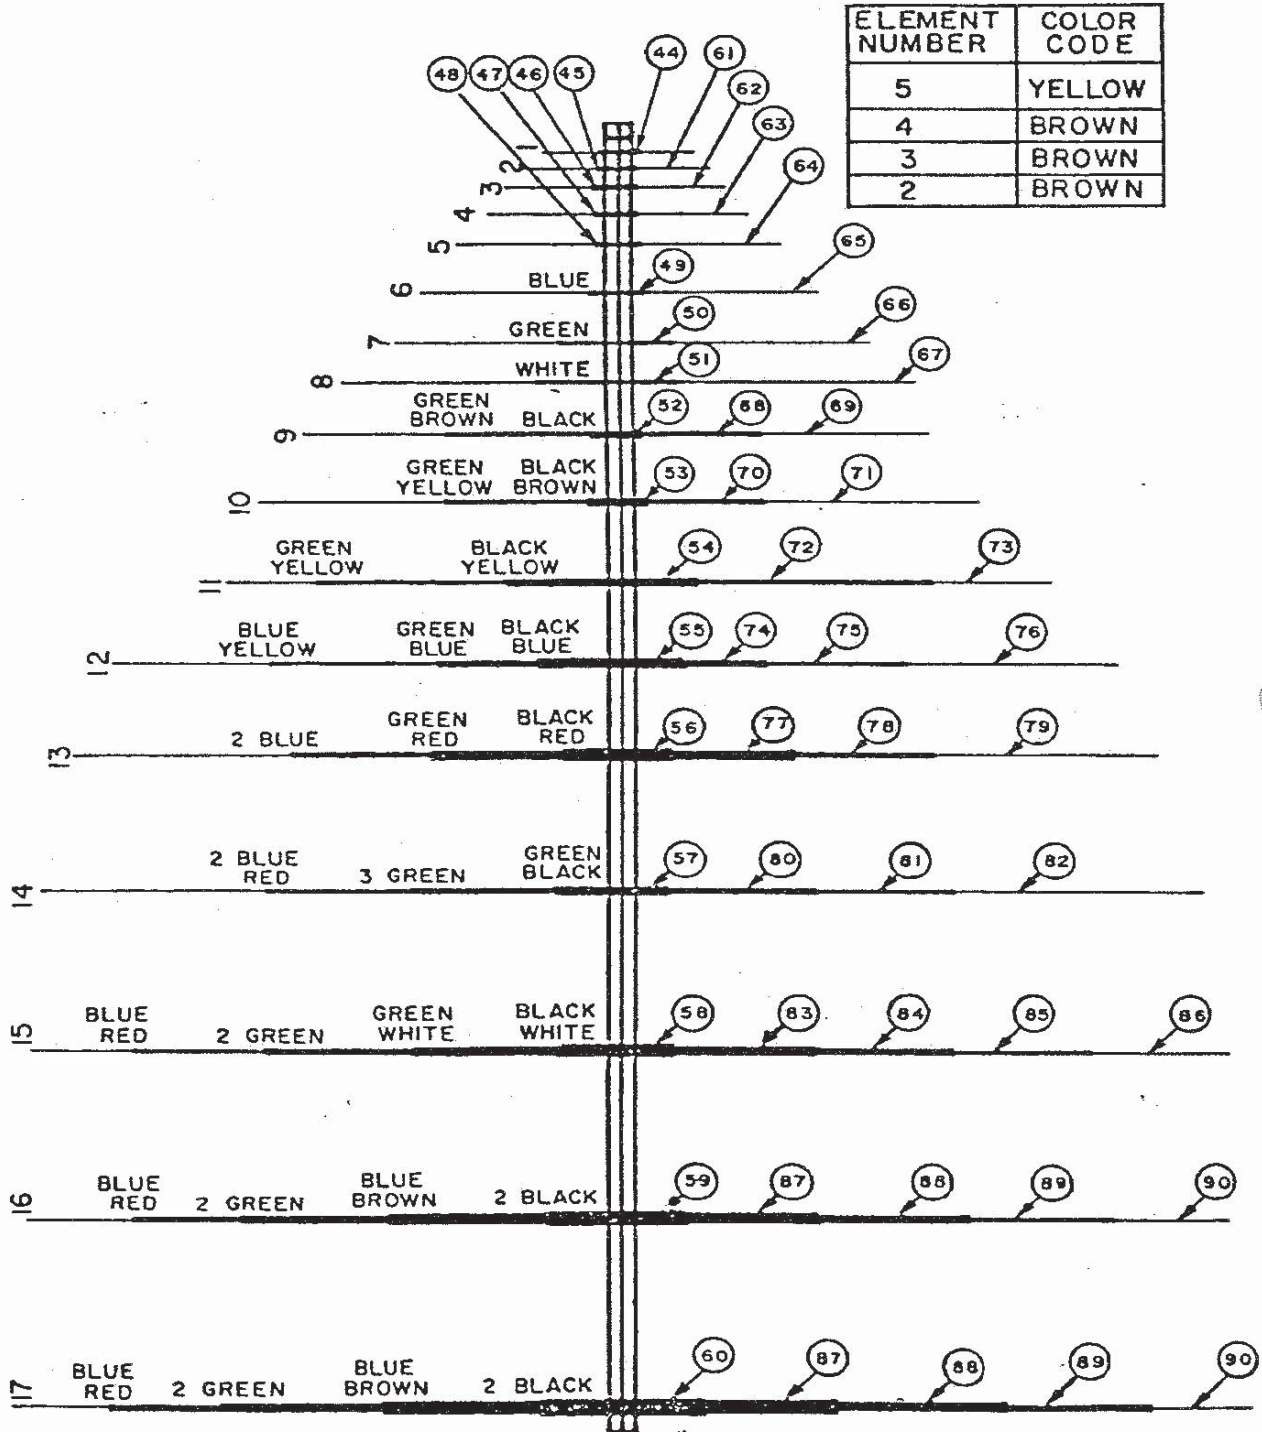

Figure 2-42
- q. Two men should now place all the element sections on the ground near the element center insulators. The end of the center insulators are color coded. The element sections which have a corresponding color coding must match up with the respective center insulator. Refer to Figure 2-42 and Tables 2-5 and 2-6 for aid in determining the exact element section and its respective color code.
KEY to Figure 2-42. Refer to the Parts List on pages 98 thru 101.